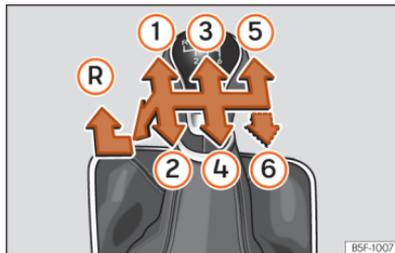

Fig. 87 Gear shift pattern of a 5 or 6-speed manual gearbox.
Gear positions are indicated on the gear lever »» Fig. 87.
- With the gear lever in neutral, push it down, move it all the way to the left and then forwards to select reverse gear »» Fig. 87 (R).